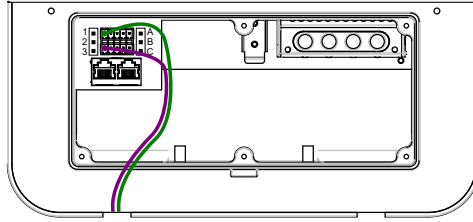

Fig. 6-7 Terminal position Potential-free contact
4. Locate the **two unused terminals** marked + and - on the lower circuit board of the EV charging station (see Fig. 6-7).